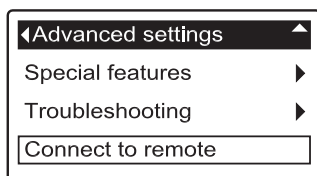
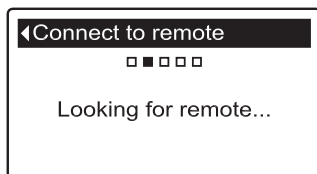
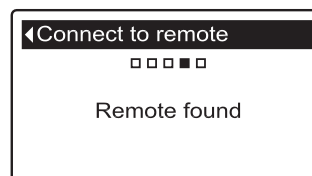

FIG. 18
FIG. 19
FIG. 20
4. Press the softener's SELECT (O) button to display the Advanced settings menu (See Figure 18).
9. Make sure the softener's display still shows the screen in Figure 18. Press the softener's SELECT (O) button to display the "Looking for remote" screen (See Figure 19).
10. Within a few seconds the screen should change to show "Remote found" (See Figure 20). If, after about one minute, the softener's screen instead reads "New remote not found," press the softener's SELECT (O) button to return to the screen in Figure 18 and press the remote's LEFT (◀) button to return to the screen in Figure 96. Then repeat this procedure from Step 8. If the remote is not found after several tries, contact your dealer for service. Take note of the message on the remote's screen after an unsuccessful attempt, as it indicates the nature of the problem.
11. Press the softener's SELECT (O) button. The display will go back to the Advanced settings menu (Figure 18).